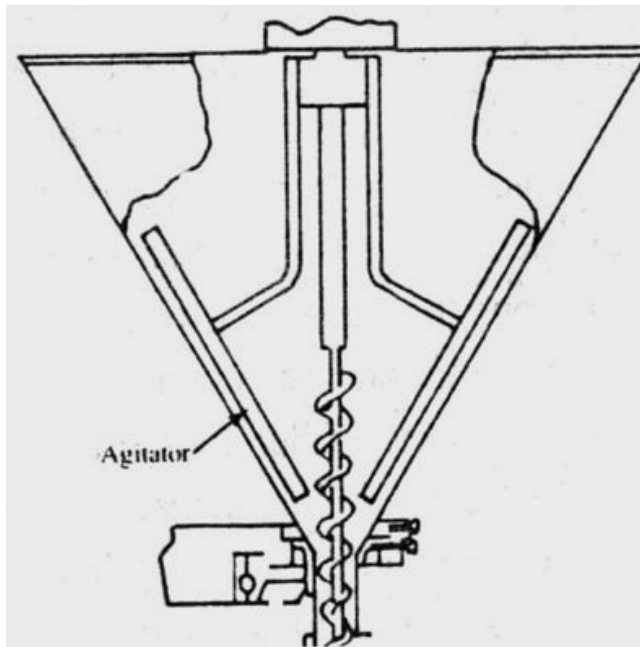
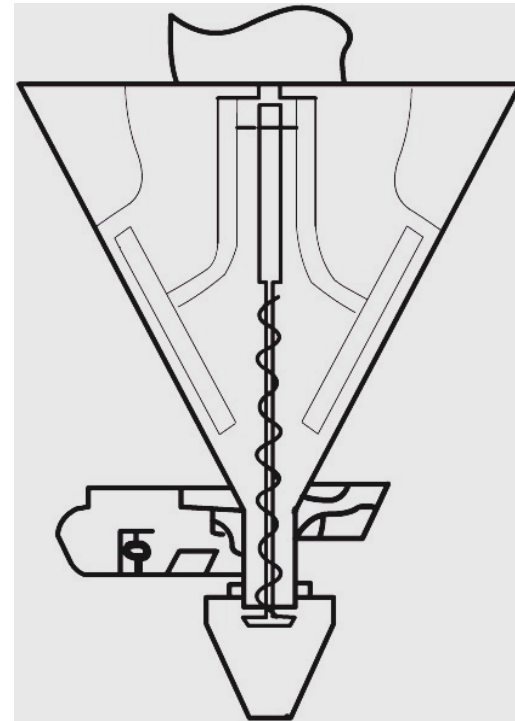

Figure 20.24 Auger for nonfree-flowing powder
Figure 20.25 Auger for free-flowing powder
- The auger shown in Figure 20.24 is used to move nonfree-flowing powders, and the auger shown in Figure 20.25 is designed to provide an even flow of free-flowing powders while preventing the natural flow when the auger is not turning.